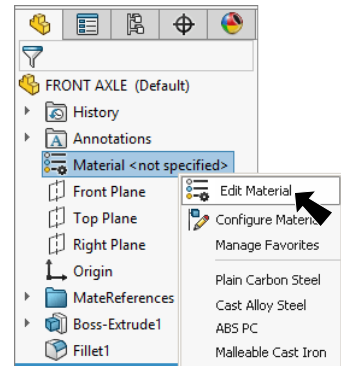

Fig. 10
- Step 1. Right click **Material** in the Feature Manager and click **Edit Material**, Fig. 10.